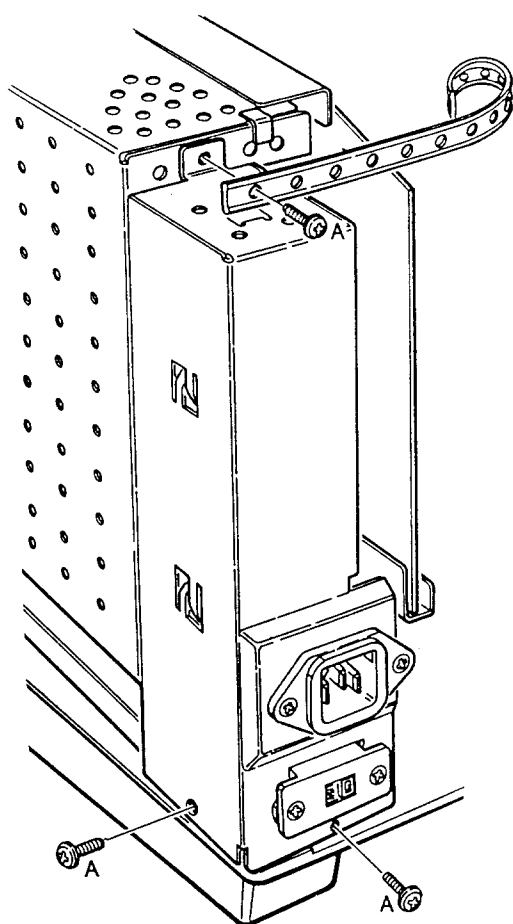

Figure 3-13. Input Power Assembly Screws
1. Remove the three 3/8-inch, phillips thread-forming screws that are labeled A in Figure 3-13.